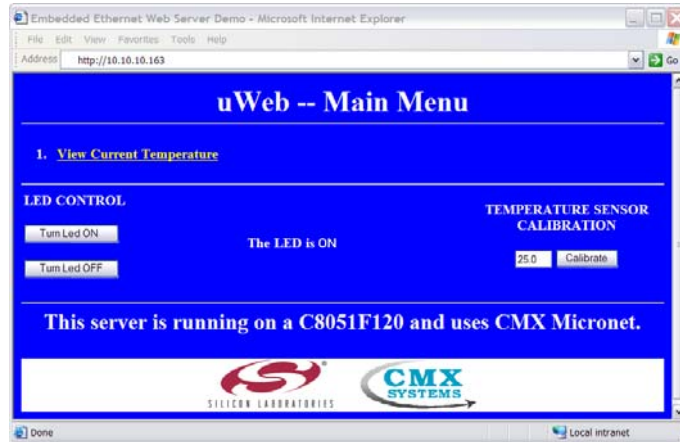

Figure 26.  $\mu$ Web Embedded Web Server
4. Type in the IP address of the embedded system in a web browser and press Enter. The uWeb server executing on the MCU should be displayed on the screen as shown in Figure 26.